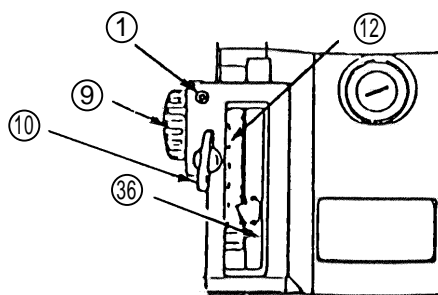
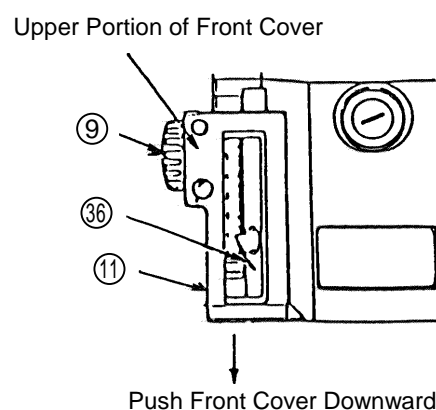

Fig. 14
Fig. 15
- (7) Remove the Knob Pinion ⑨: (Figs. 14 and 15)
- (a) To remove the Knob Pinion ⑨, it is first necessary to remove the End Bracket ④ and Armature ⑪ from the Housing Ass'y ㉓ as described in Paragraph (4), above.
- (b) Loosen and remove the D4 x 20 Tapping Screw ① and the M6 x 27 Wing Bolt ⑩.
- (c) Grasp the upper portion of the Front Cover ⑪, and pull it slightly toward you. In this position, push the Front Cover ⑪ downward in the direction indicated by the arrow mark in Fig. 15 to disconnect and remove the interlocking claw of the Front Cover ⑪ from the Housing Ass'y ㉓.
- (d) Remove the Scale ⑫ and Stopper Pole ㉔. Then, remove the Knob Pinion ⑨ from the Housing Ass'y ㉓.
- (e) Remove the Scale Stopper ⑬.